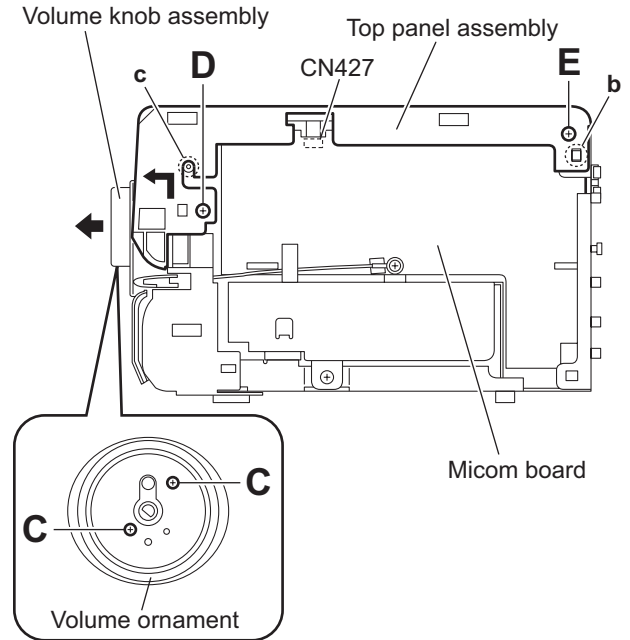

Fig.5
3.1.2 Removing the top panel assembly (See Figs.5 to 6)
- From the front side of the main body, pull out the volume knob assembly in the direction of the arrow. (See Fig.5.)
- Remove the two screws **C** and remove the volume ornament. (See Fig.5.)
- From the both sides of the main body, remove the two screws **D**, two screws **E** and screw **F**. (See Figs.5 and 6)
- From the both sides of the main body, release the joints **b** and remove the joints **c** in the direction of the arrow. (See Figs.5 and 6.)
- Disconnect the card wire from the connector **CN427** on the micom board while lifting the top panel assembly. (See Fig.5.)